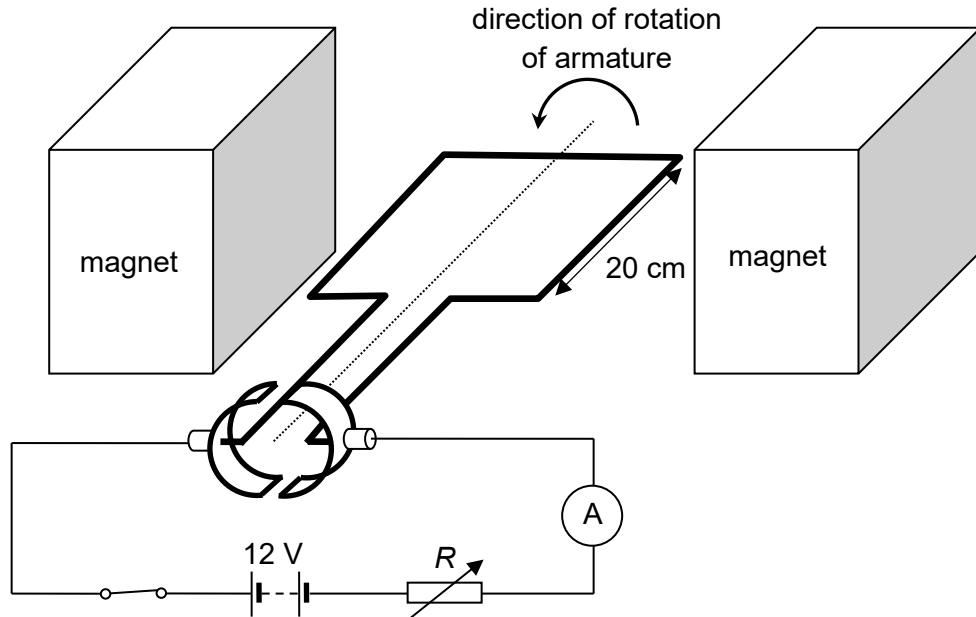

Fig. 5.1
5 Fig. 5.1 shows a simple electric motor. An armature is placed between 2 permanent magnets.
- (a) (i) On Fig. 5.1, sketch the magnetic flux in the region between the 2 magnets. [1]
- (ii) The current in the armature is 0.55 A just as the armature starts to rotate from the instant shown in Fig. 5.1.